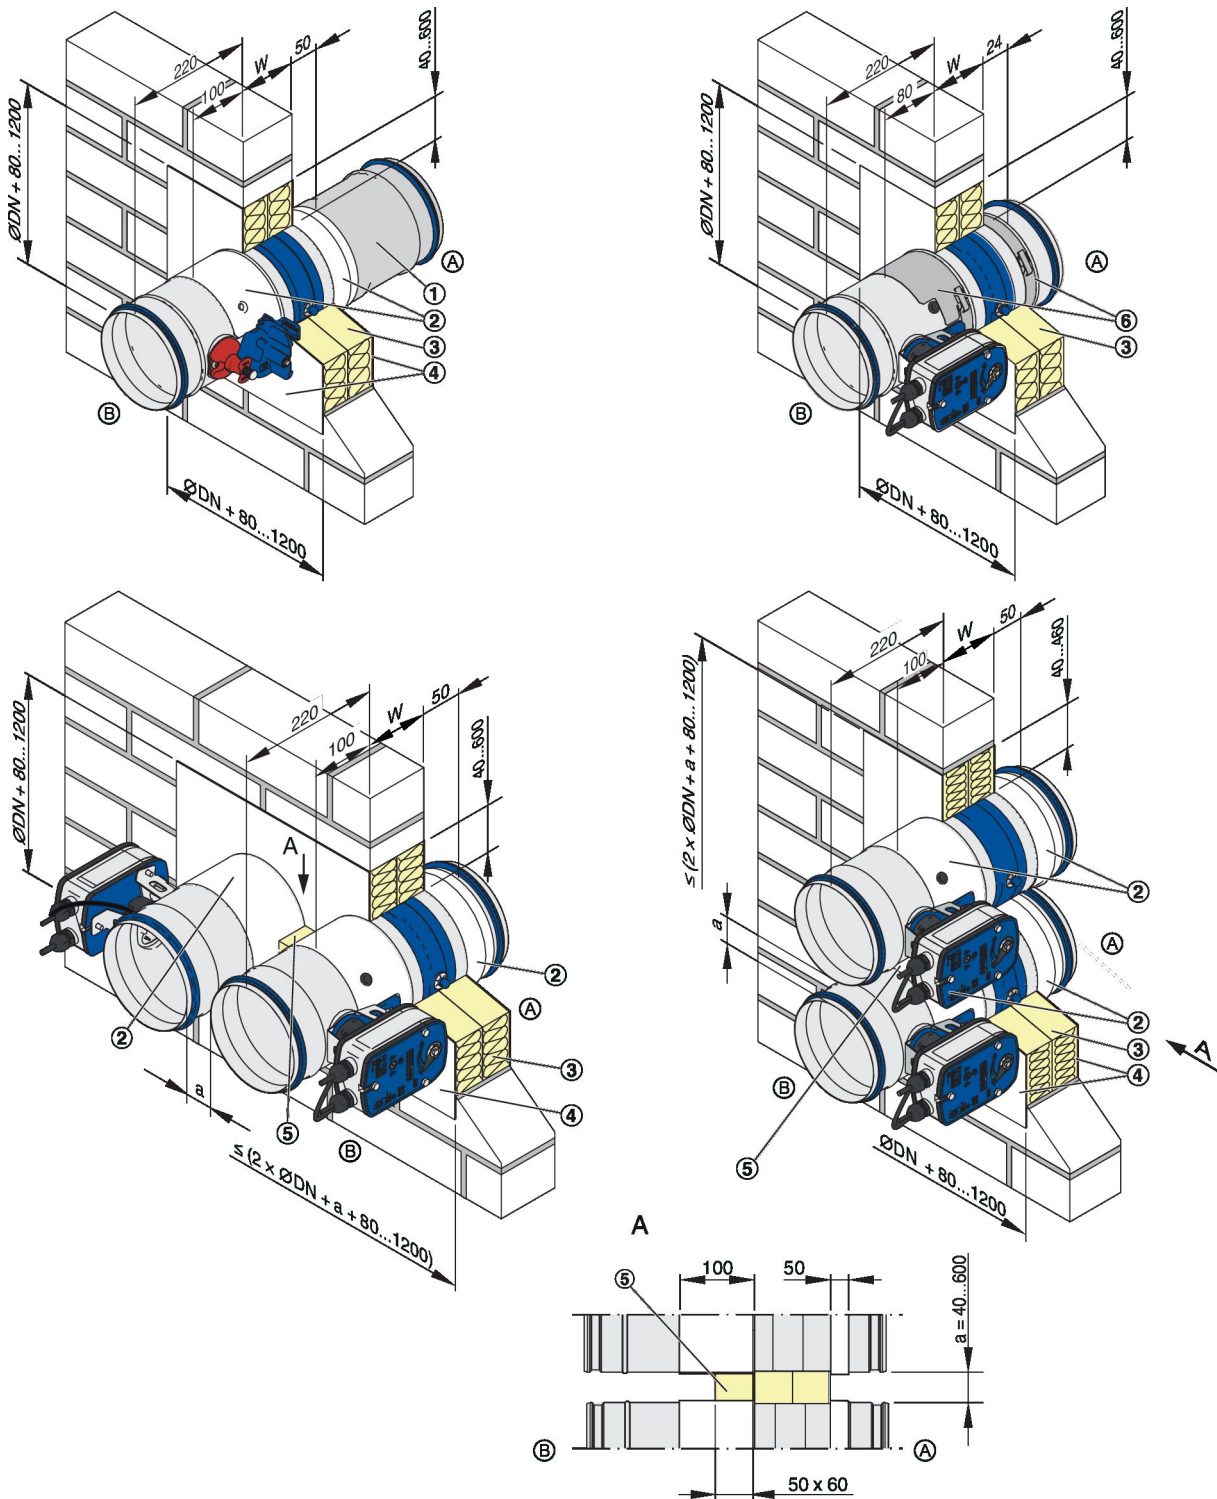

Fig. 11: Installation with fire batt
- ▶ An opening is required, see Fig. 11. 40...600 mm between fire damper and wall opening
- ▶ Apply ablative coating to joints, transitions and any imperfections on the coated mineral wool slabs. Attach the mineral wool strip ⑤, if necessary.
- ▶ You may use sleeves; if you do not use sleeves, you have to apply ablative coating ②, ≥ 2.5 mm thick, to the fire damper casing ↪ 'Performance class and installation details' on page 23. The actuator and release unit must not be coated.